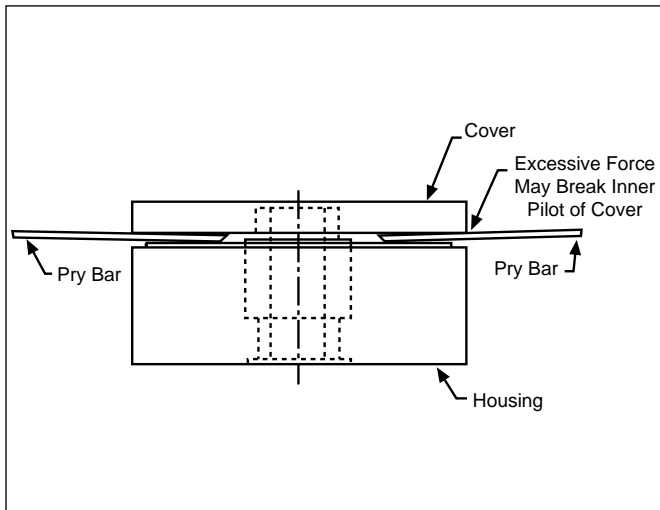

FIGURE 16
3. There are two locking screws (25) located on the face of the cover which lock down the reset spring screw (14) and the drive spring screw (21). Loosen these screws to relieve the pressure on the drive spring screw and reset spring screw.
4. Turn the reset spring screw (14) counterclockwise to relieve the compression on the reset spring (19).
5. Remove the sealing wax from the drive spring screw (21) and turn the screw counterclockwise to relieve the compression on the drive spring (18).
6. Remove the cover screws (27).
7. Pry off the cover (8). Use care not to break the inner pilot of the cover (see Figure 16).
8. Remove the reset screw (14) and take out the reset spring (19), and the ball thrust (20) through the hole stamped 9.